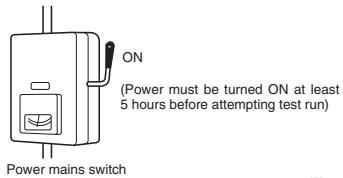

Fig. 9-1
- (1) All loose matter is removed from the cabinet especially steel filings, bits of wire, and clips.
- (2) The control wiring is correctly connected and all electrical connections are tight.
- (3) The protective spacers for the compressor used for transportation have been removed. If not, remove them now.
- (4) The transportation pads for the indoor fan have been removed. If not, remove them now.
- (5) The power has been supplied to the unit for at least 5 hours before starting the compressor. The bottom of the crankcase heater should be warm to the touch and the crankcase heater around the feet of the compressor should be hot to the touch. (Fig. 9-1)